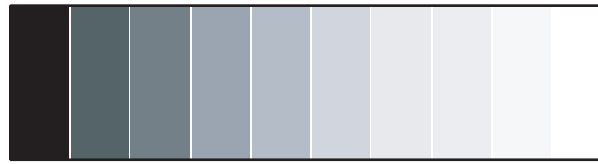

Figure 4-10: Typical Gray Bar Pattern for Adjusting Contrast
- **Contrast:** On your external test pattern source, select a stepped, gray-bar pattern like the one shown in Figure 4-10.